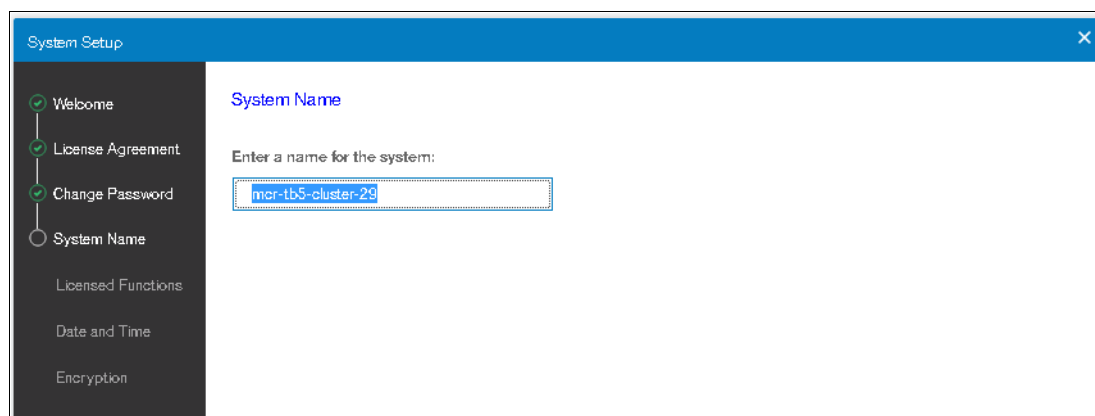

Figure 2-27 Setup wizard: System Name
7. In the System Name window, enter the system name as shown in Figure 2-27 and click **Apply and Next**.